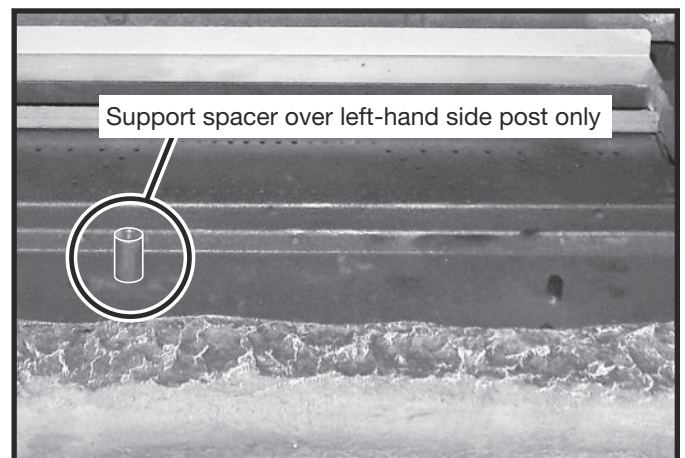

Figure 75: Support spacer over post.
8. Place included metal spacer/support over top of the left-hand side post located on the front burner (Figure 75). This spacer will support the front end of log number two. **Note: Spacer may already be present and fastened to the burner.**